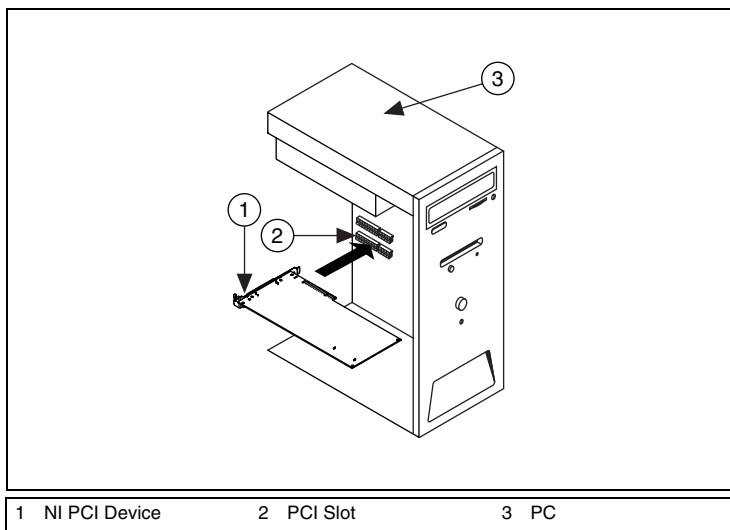

Figure 2. PCI Installation
3. Insert the device into an open PCI slot as shown in Figure 2.